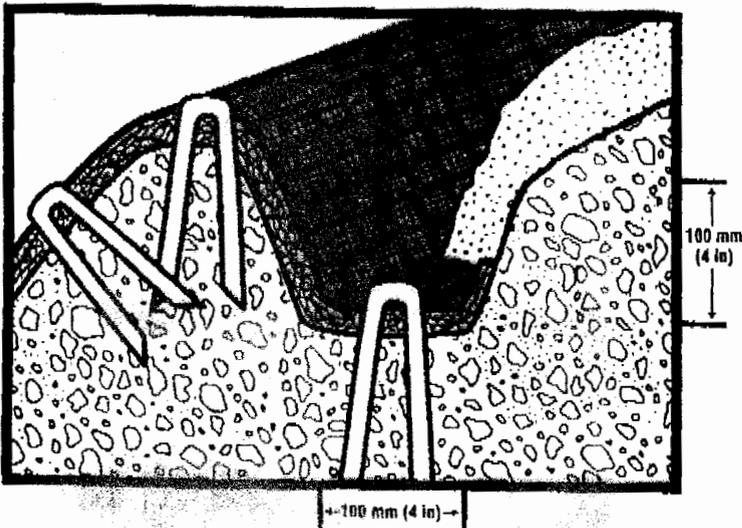

Figure 3: Longitudinal Anchor Trench (Channels)
- Cut longitudinal channel anchor slots 100 mm (4 in) deep and 100 mm (4 in) wide along both sides of the installation to bury edges of TRM (Figure 3). Whenever possible, extend mat 600-900 mm (2-3 ft) above crest of channel side slopes.
- Place outer edge of TRM in previously excavated longitudinal slots, anchor using prescribed staple pattern, backfill and compact soil (Figure 3).